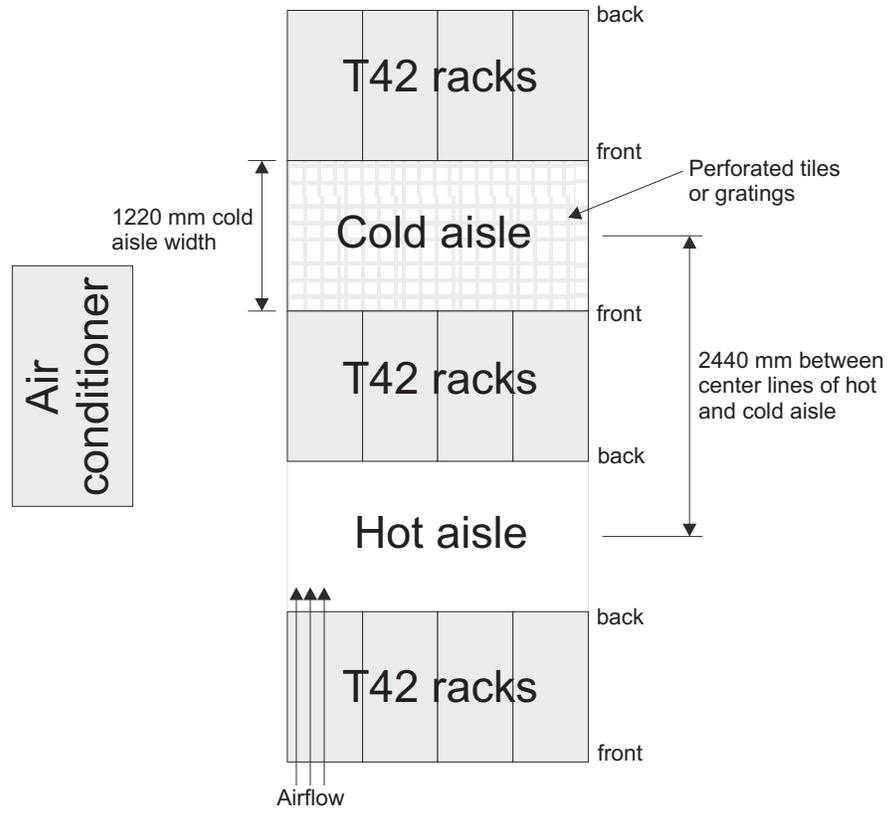

Figure 8. Example of cold aisle/hot aisle rack configuration
- Air enters at the front of the rack and leaves at the back. To prevent the air that is leaving the rack from entering the intake of another piece of equipment, you must position the racks in alternate rows, back-to-back and front-to-front. This arrangement is known as “cold aisle/hot aisle” and is shown in Figure 8 on page 17.